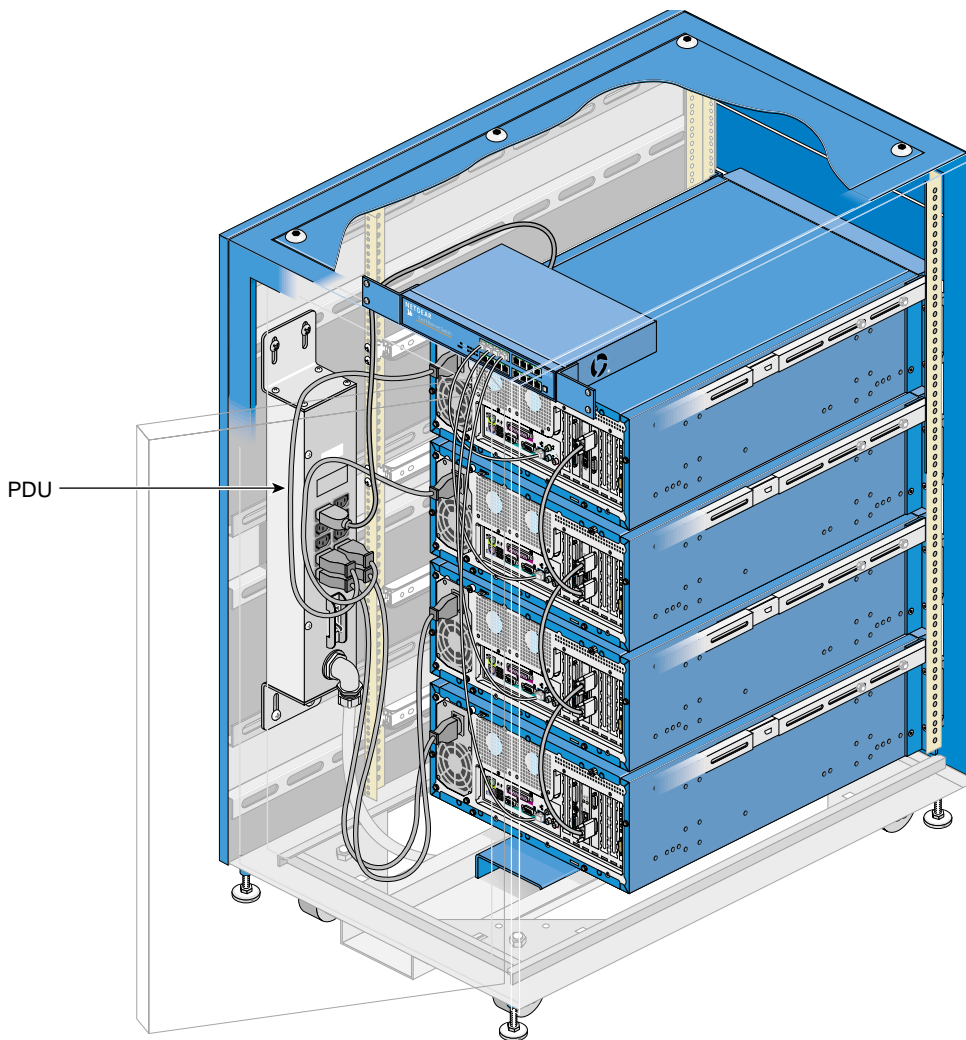

Figure 4-18 Connecting a Node AC Power Cable
2. Attach the node's power cable to the rack's PDU; see Figure 4-18.